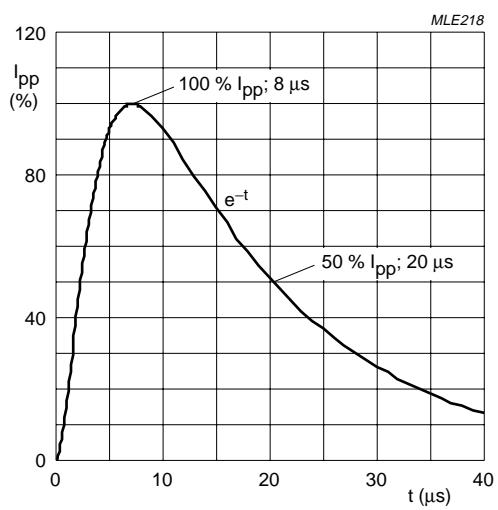

Fig.2 8/20 μs pulse waveform according to
1. Non-repetitive current pulse 8/20 μ s exponentially decaying waveform; see Fig.2.
1. Non-repetitive current pulse 8/20 μs exponentially decaying waveform; see Fig.2.
$I_{pp} = 8/20 \mu\text{s}$ exponentially decaying waveform; see Fig.2.